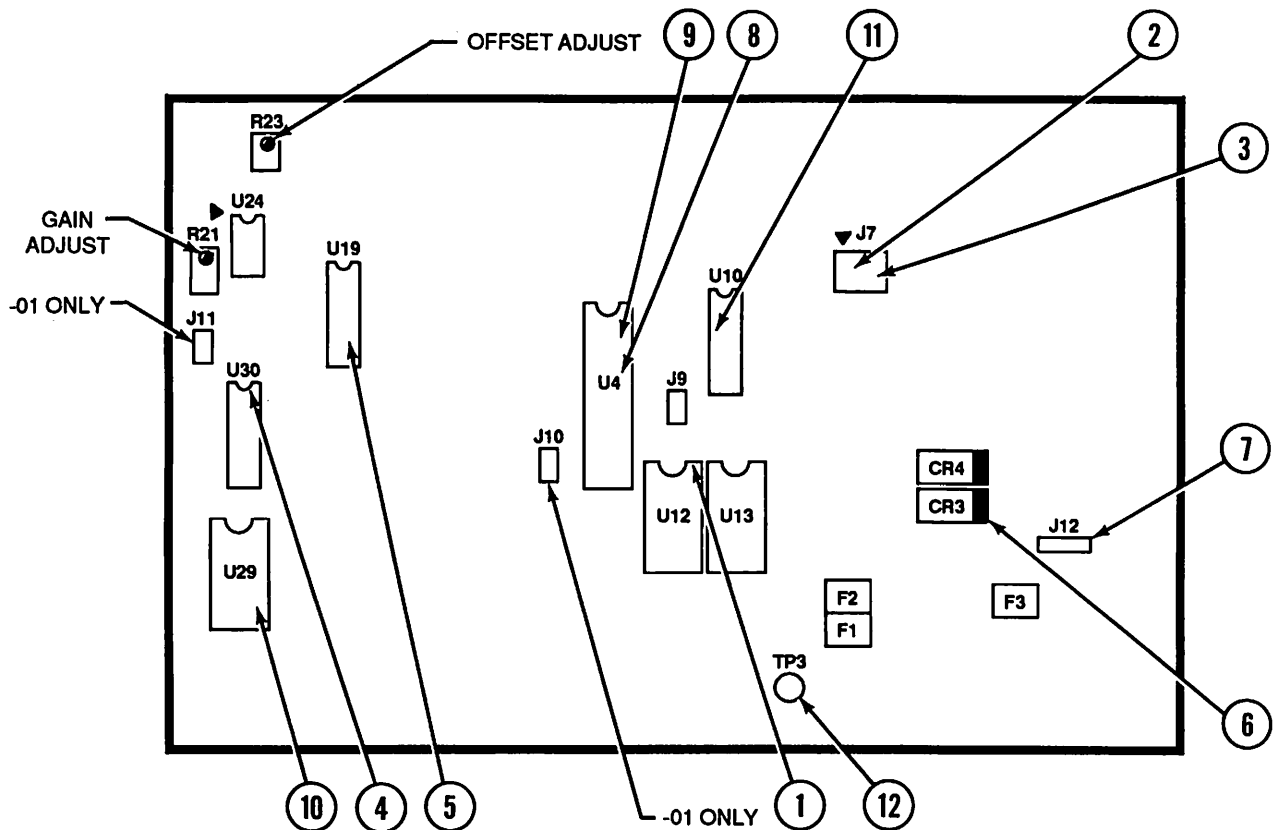

FIGURE 3-2. COMPUTATIONAL POWER SUPPLY PCB TEST POINT LOCATIONS
- C. Confirm the jumper installation on the Computational Power Supply PCB Assembly as follows: J9 shorts pin 2 to pin 3 (on -01 configuration, J10 shorts pin 1 to pin 2 and J11 shorts pin 1 to pin 2. J10 and J11 are only on -01 configuration). Refer to Figure 3-2 for the location of the jumper(s).
- B. Verify the dc voltages specified in Table 3-2, at test points 1 through 7. Figure 3-2 shows the board locations for these test points. Use TP3 as the ground reference for all dc voltage measurements unless otherwise specified.
1. Press TEST LOAD SELECT ▲ and hold until a 3 appears. Notice that the display alternates between the 3 for test 3 and a three-digit number. The three-digit number is the absolute value difference between the current A/D output and the correct A/D output. (Refer to Figure 3-2 for the location of R21 and R23.)